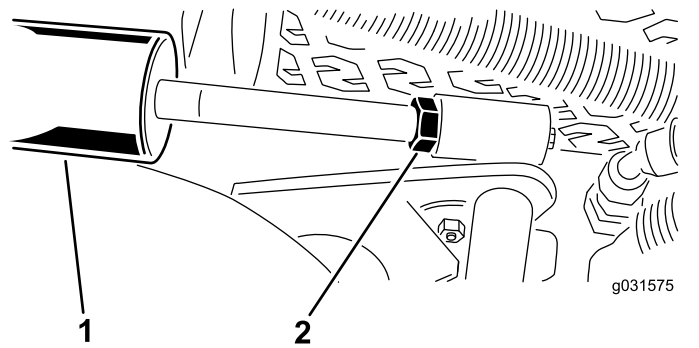

Figure 14
- A. Lower the cutting units and back off the jam nut on the cylinder (Figure 14).